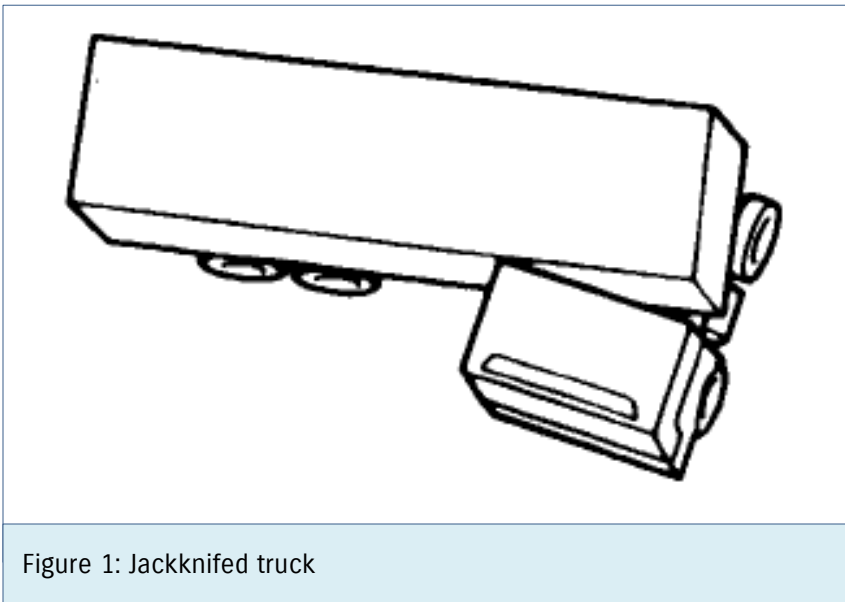

Figure 1: Jackknifed truck
- Reduction of steering stability: steering wheel out of control, fishtailing, spin or jackknife (jackknifing means to bend suddenly at the connecting part of a truck and its trailer and go out of control, see figure 1).